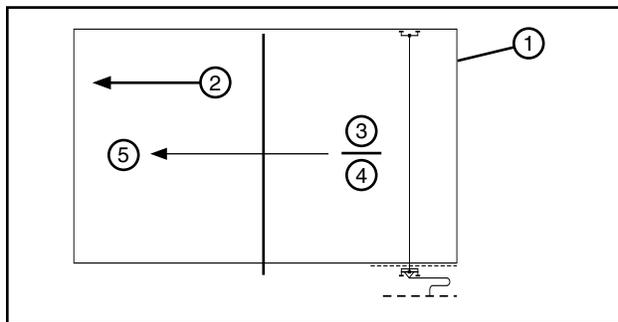

Figure 38-2 1. Field
3. Reverse the system direction, set the percentage timer, and run the system wet or dry back to the original end of the field. See Figure 38-2.